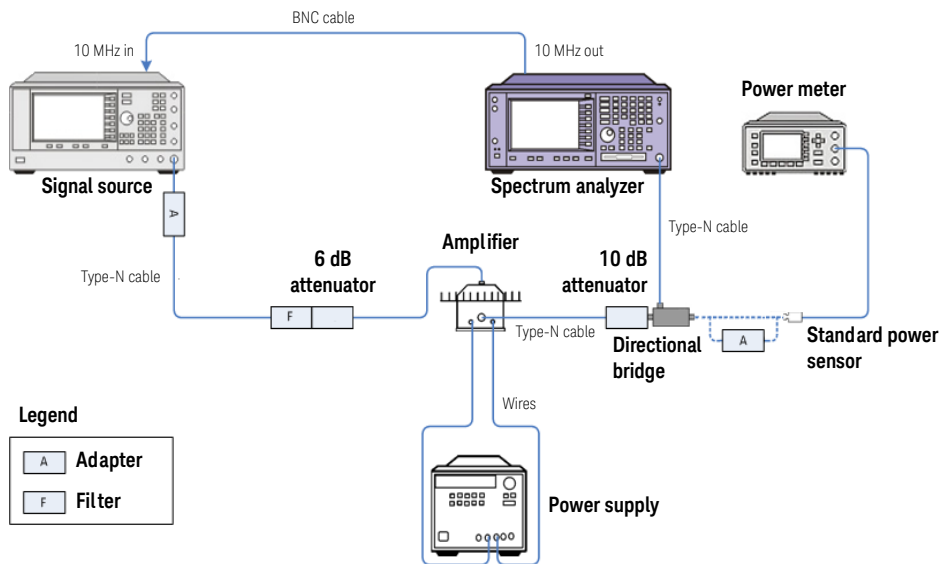
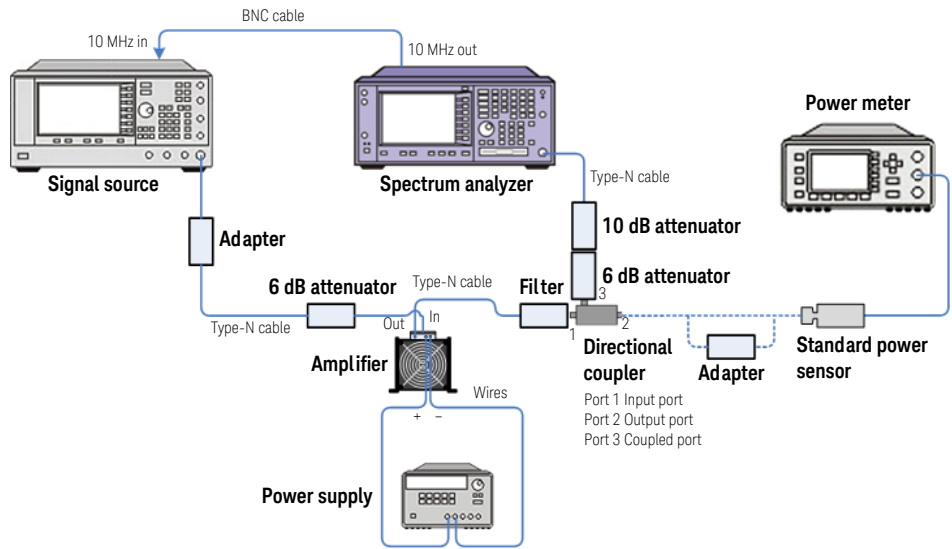
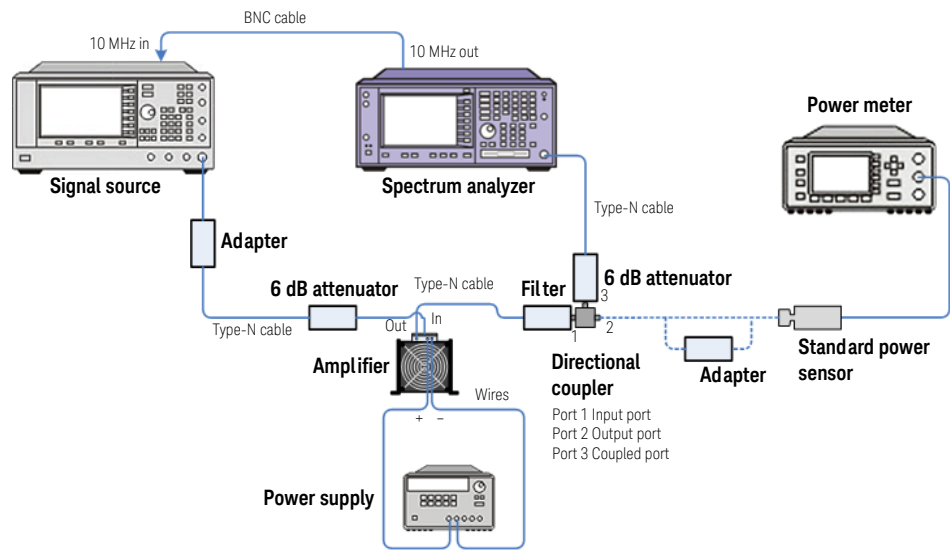

Figure 3-4 Sensor accuracy test setup calibration for U200xA
Figure 3-5 Sensor accuracy test setup calibration for U200xB
Figure 3-6 Sensor accuracy test setup calibration for U200xH
- 2 Connect the standard sensor (use an adapter if required) to the test port. Connect the equipment as shown in Figure 3-4 (U200xA Series), Figure 3-5 (U200xB Series), and Figure 3-6 (U200xH Series).